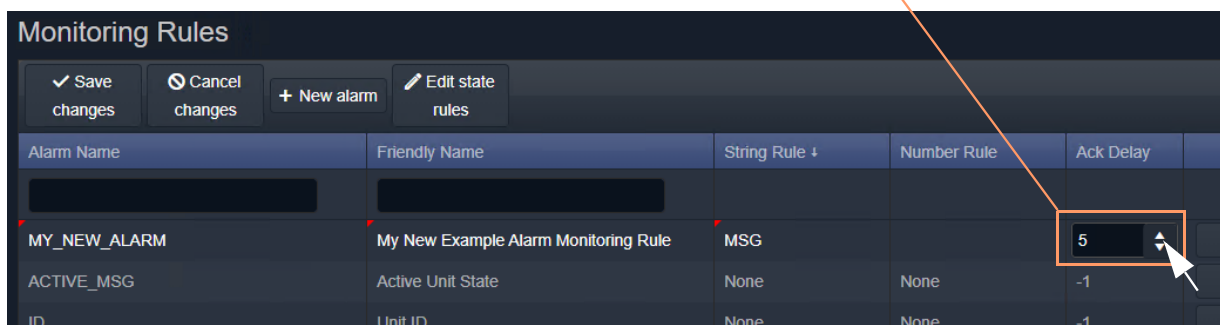

Figure 75: Select an Ack Delay Figure (seconds)
- If an auto-acknowledge is required, set the timeout period (**Ack Delay** figure in seconds, -1 = no auto-acknowledge). See Figure 75.